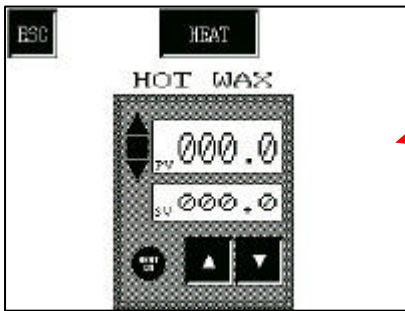
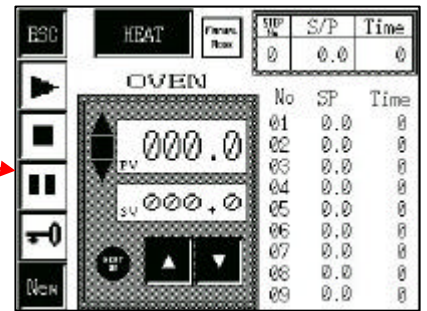
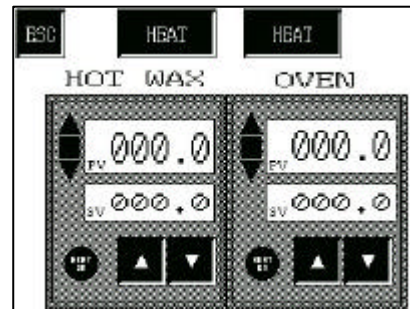

Fig. 45
Fig.47
Fig.48
The screen displayed having pressed the TEMP button on the Menu screen will depend on the options included in your machine. If only the Heated Cup option is fitted, then the screen shown in Fig.45 will be displayed, if the Heated Oven option is fitted then the screen in Fig.47 will be displayed, if however, both options are fitted then the screen shown in Fig.48 will be displayed.
The screen shown in Fig.45 displays the control for the Hot Wax (Heated Cup) temperature. The current temperature of the cup is displayed in the upper window (PV) in centigrade and the lower window displays the set value (SV) also in centigrade.